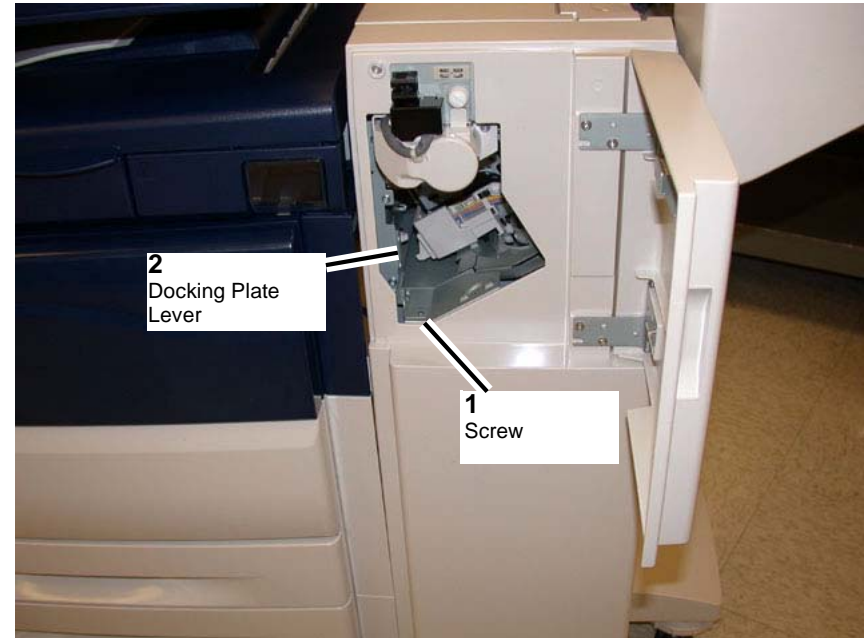

Figure 2 Finisher Lever
- (1) Remove the Screw.
- (2) Pull the Docking Plate Lever towards you and detach the Finisher.(Figure 2)